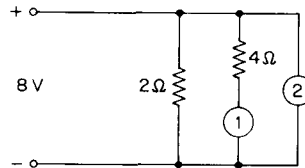

Fig. 2.108
36. Find the readings of each of the instruments shown in Fig. 2.108.